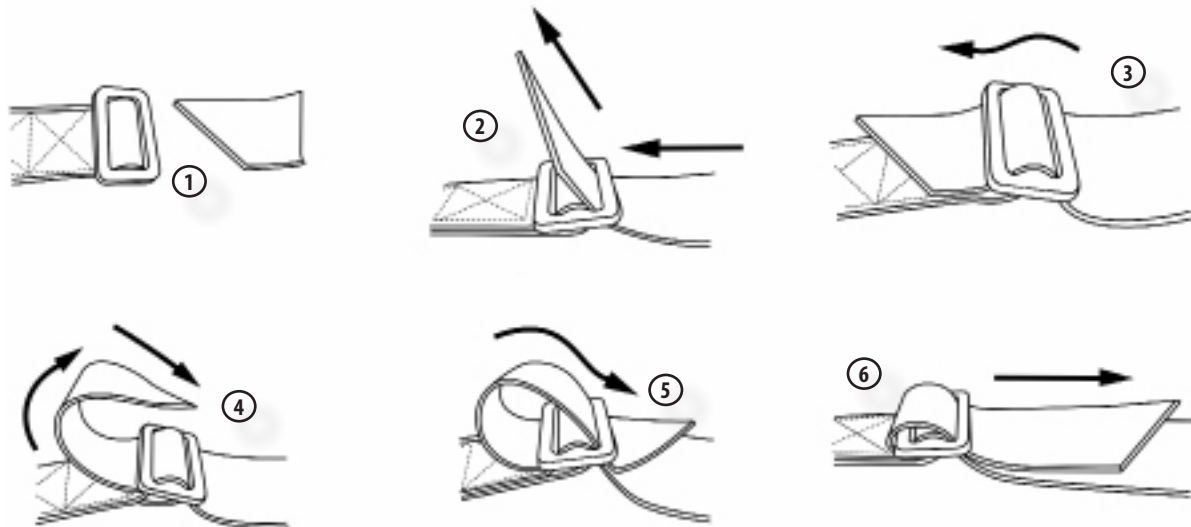

Figure 6
STEP 3: Locate the waist belt and waist belt buckle as shown in Figure 1. Wrap the waist belt around your waist as shown in Figure 5. Thread the buckle as shown in Figure 6. Extreme care must be taken to thread the waist buckle as depicted in Figure 6. Tighten the waist buckle until the waist belt is snug. DO NOT overtighten as this may become very uncomfortable and potentially cut-off your circulation.